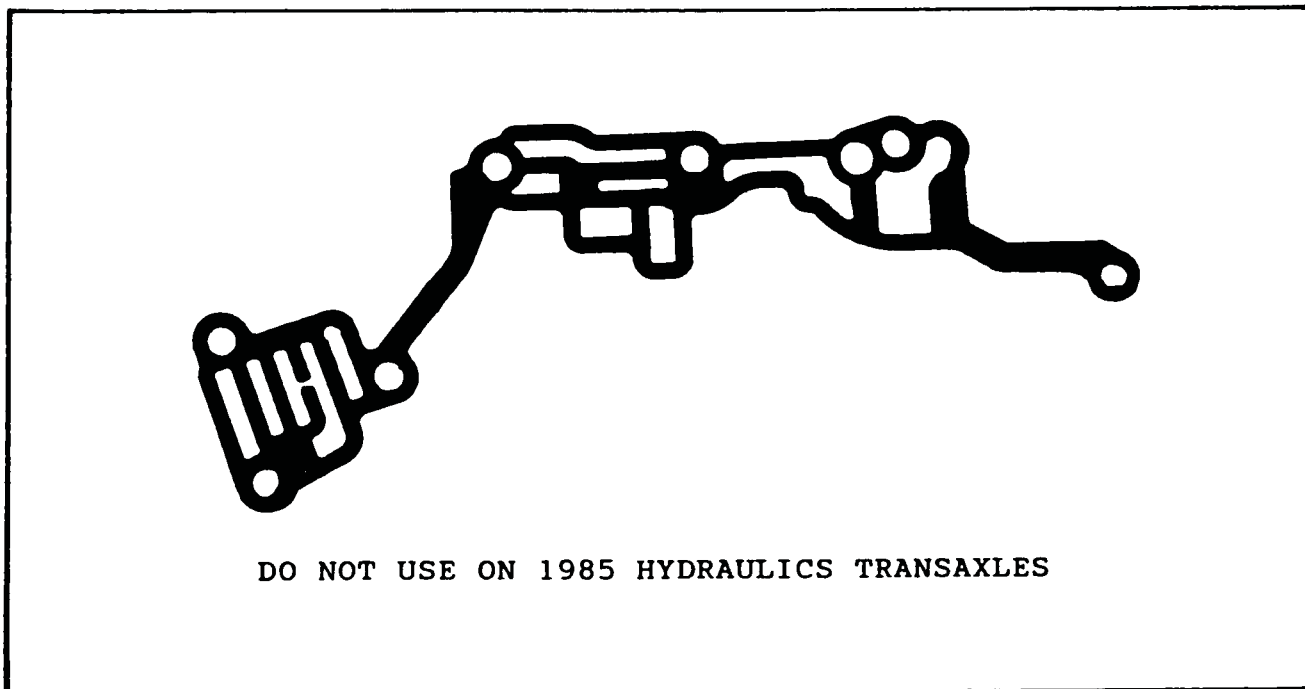

Figure 95
**CHANGE:** Upper Channel Plate Gasket (See Figure 95).
- (1) Upper Channel Plate Gasket - The Upper Channel Plate Gasket and Modulator Port Gasket are now connected together as one gasket (See Figure 95).